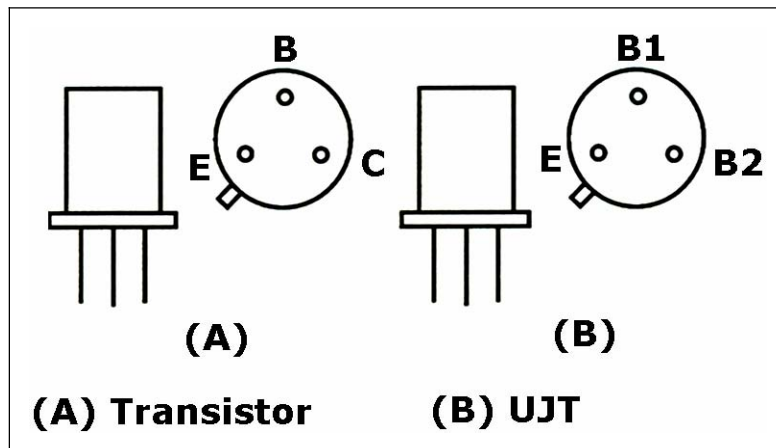

Figure 3-39. Transistor and UJT
3-66. The physical appearance of the UJT is identical to that of the common transistor (see Figure 3-39). Both have three leads and the same basic shape. The tab on the case indicates the emitter on both devices. The difference in the two is that the transistor has a collector (C) (view A) while the UJT has a second base instead of a collector (view B).